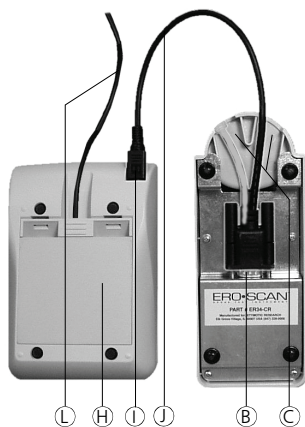

Figure 1
Connect one end of the printer cable ① into the port ② located on the underside of the cradle as shown in Figure 1 to the right.